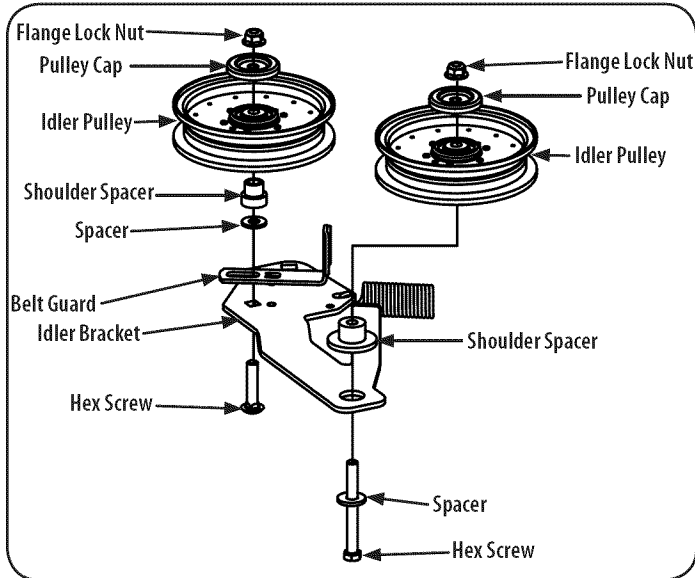

Figure 36
3. Remove the movable idler pulleys and belt guard on the left pulley by removing the hex screws, pulley cap and flange lock nuts that secure them to the idler arm. See Figure 36. Do not lose any of the hardware when removing the hex screw, belt guard, pulley cap, spacer, shoulder spacer and flange lock nut.
6. Place the belt around the idler pulleys removed in step 3 with the "V" side facing in. Once in place, reinstall all the hardware and tighten the flange lock nut to secure the assembly. See Figure 36.
7. Route the belt as shown in Figure 36 and then reinstall the deck (refer to Deck Installation).